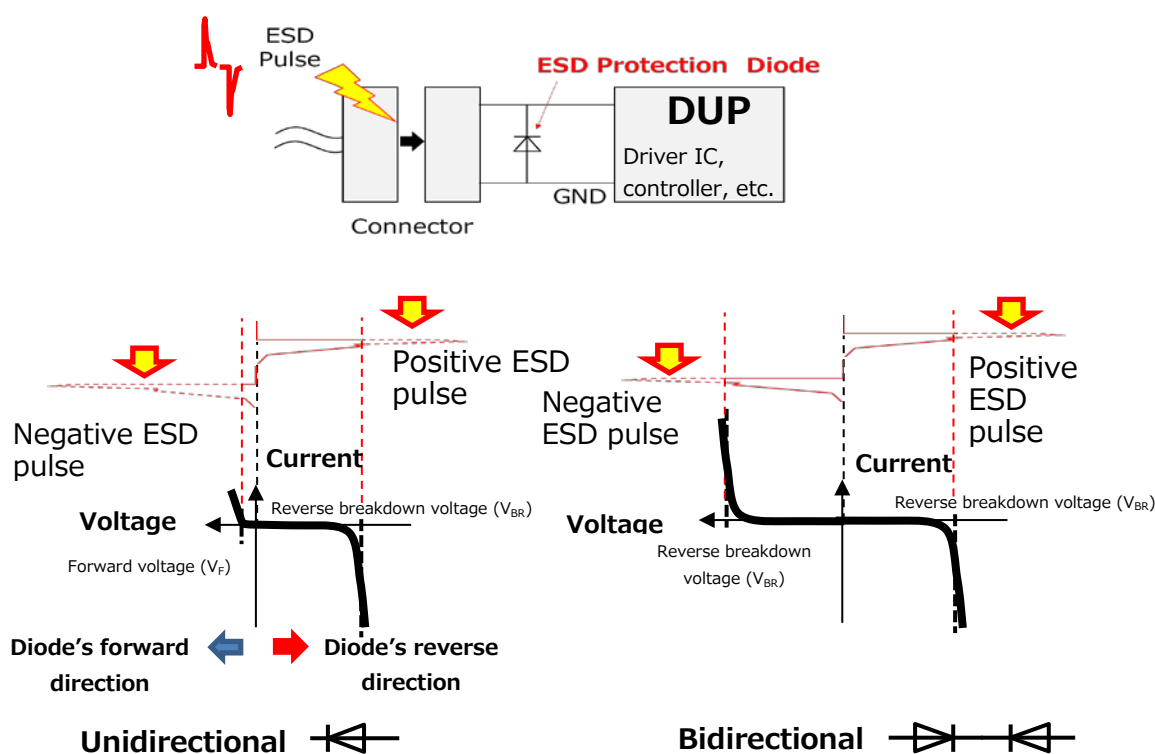

Figure 3.16 Absorption of positive and negative ESD pulses
When an ESD is introduced into a system, ESD protection diodes either conduct or enter reverse breakdown. A unidirectional ESD protection diode enters reverse breakdown in the event of a positive ESD strike and goes into conduction in the event of a negative ESD strike, as shown in Figure 3.16. This allows the ESD energy (current) to flow to GND, protecting the DUP.
- I. ESD polarity: Both unidirectional and bidirectional ESD protection diodes can be used to absorb positive and negative ESD pulses as shown in Figure 3.16. It is therefore unnecessary to be concerned about signal polarity.